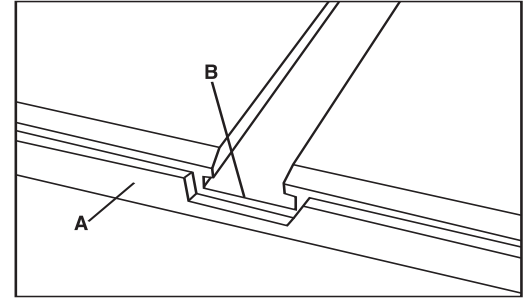

FIGURE 5
- 2) The modification requires cutting out a small section of the bar(s) (A) Fig.5 to allow clearance to the side T-slots (B). Mark the affected bar(s), then remove bar(s), cut bar as shown in Fig.5 and reinstall bar(s). This can be done by using an angle grinder or notched with a hack saw. If you are not confident about this cutting procedure, mark the bars and bring them to a machine shop to get them modified.